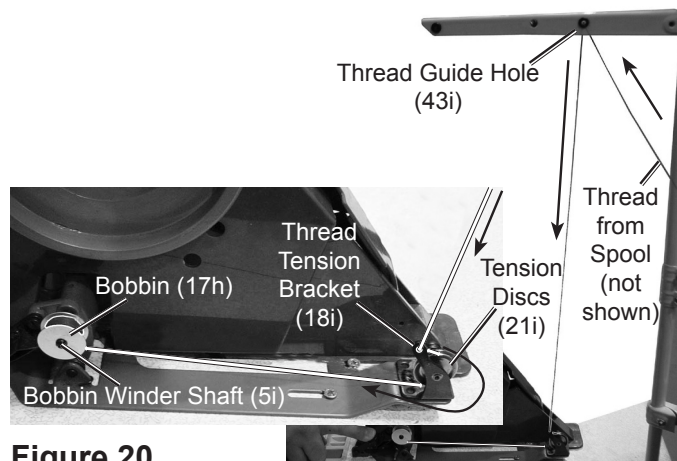

Figure 20
3. Place the Bobbin onto the Bobbin Winder Shaft (5i) with the thread coming from underneath (See Figure 20). If needed, use the large Screw Driver (14h) or a pair of pliers (sold separately) to open or close the end of the Shaft so the Bobbin is snug enough to turn with the Shaft, yet can still be pulled off easily.